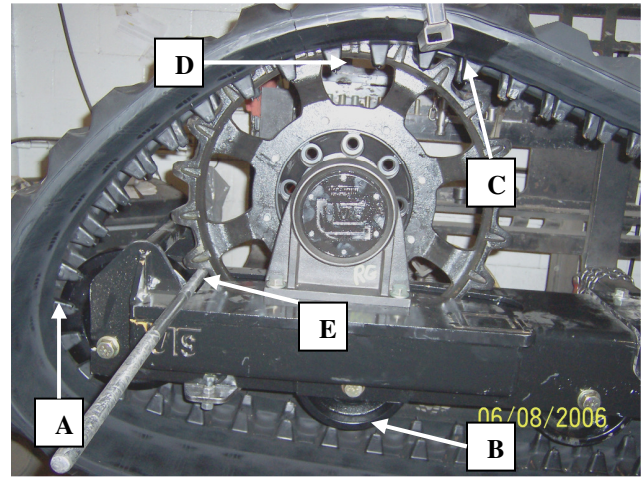

Fig. 4
- a. Guide the rear idler into the Track Idler Guides. **Fig. 4**
- c. Lift the top of the track in front of the sprocket with a hoist or similar device. **Fig. 4**